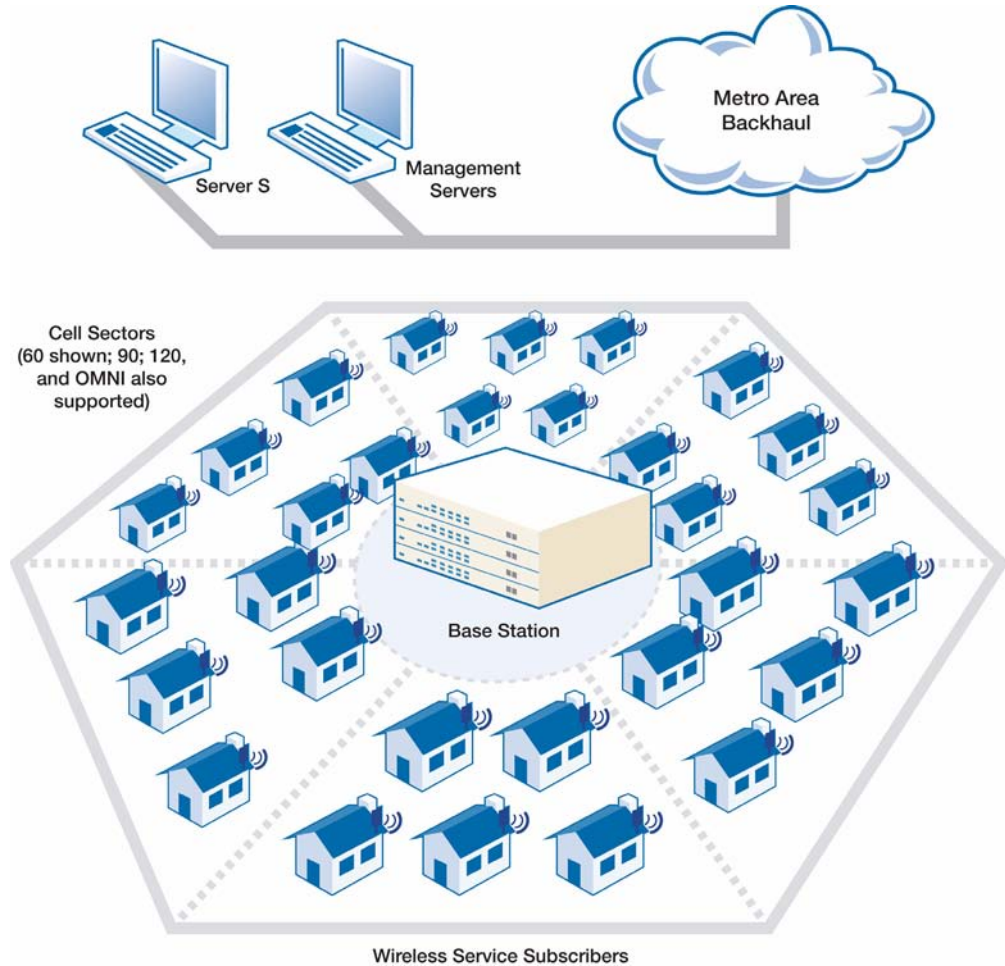

Figure 1-1 PacketMax System Elements
- Figure 1-1: PacketMax System Elements, 1-3
This base station is a modular design and supports large number of deployments. The wireless sectors on the PacketMax 5000 indoor unit is equipped to be 1:N redundant at the wireless port level and 1:1 redundant at the backhaul card level. Currently, it has 4 ports and abundant processing power and bandwidth. There is a high capacity non-blocking backplane with 2.56 Gbps of switching capacity. Figure 1-1 shows the PacketMax overview.